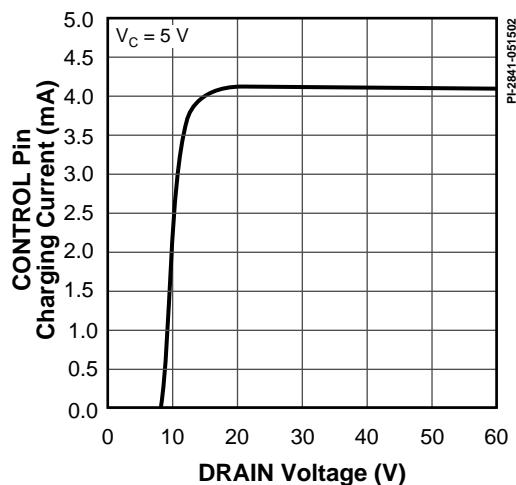

Figure 44. I_C vs. DRAIN Voltage.
- D. It is possible to start up and operate *DPA-Switch* at DRAIN voltages well below 16 V. However, the CONTROL pin charging current is reduced, which affects start-up time, auto-restart frequency, and auto-restart duty cycle. Refer to Figure 44, the characteristic graph on CONTROL pin charge current (I_C) vs. DRAIN voltage for low voltage operation characteristics.